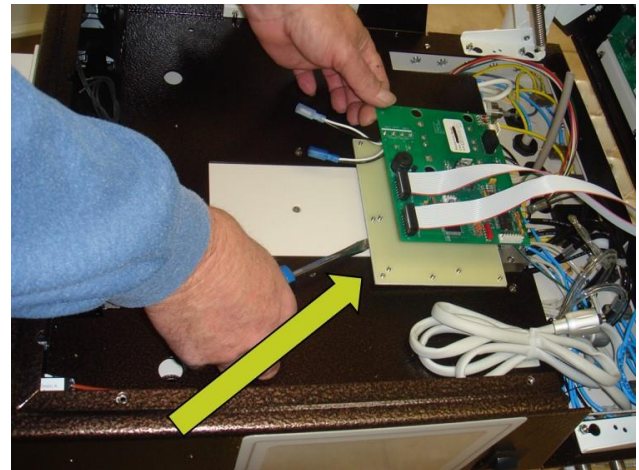

Fig. 6
14. Locate any applicable circuit board plates and unstick from baseplate. (Fig. 6)